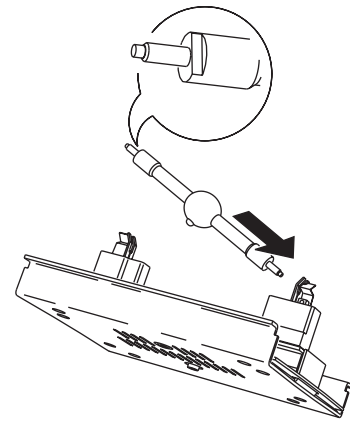

Figure 6: Lamp insertion
The ends of the lamp have specially-developed keys, shown in Figure 6, to ensure proper installation. Do not use HMI 1200 W/S lamps with the non-keyed SFc 10-4 base.
- 4 See Figure 6. With the nipple on the bulb facing the back, insert the right end of the new lamp in the socket. Pull up on the left spring and snap the other end into place.